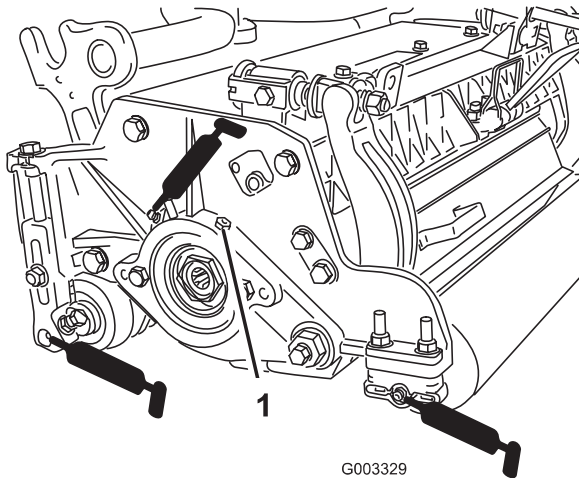

Figure 17
Each cutting unit has (6) grease fittings (Fig. 17) that must be lubricated regularly with No. 2 General Purpose Lithium Base Grease.